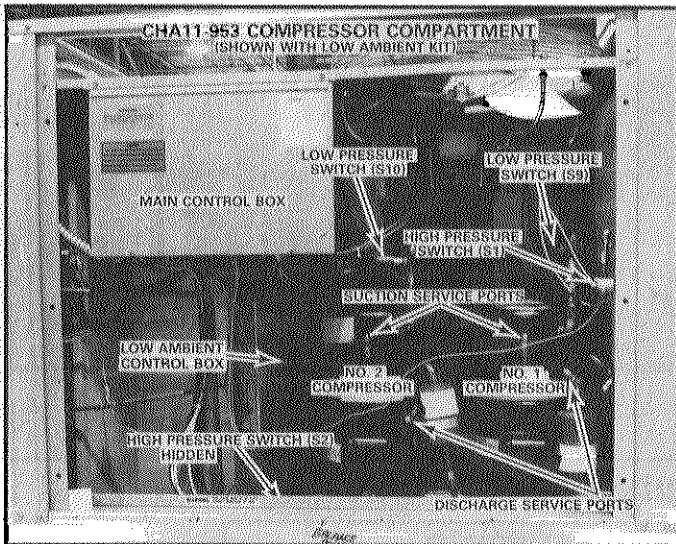

FIGURE 8
**C - Compressor Compartment (Figures 8 & 9)**